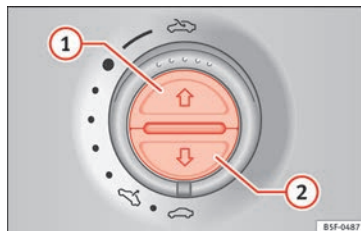

Fig. 138 On the interior roof lining: switches for the sun blind
To open completely (automatic):	Press button » Fig. 138 ① briefly.
To stop automatic operation:	Briefly press the button » Fig. 138 ① » Fig. 138 ②.
To set the intermediate position:	Hold the button » Fig. 138 ① or » Fig. 138 ② until the required position is reached.
To close completely (automatic):	Press button » Fig. 138 ② briefly.
- *Sun blind*: Within 5 seconds of triggering the anti-trap function, push button » **Fig. 138**  until the sun blind closes completely.